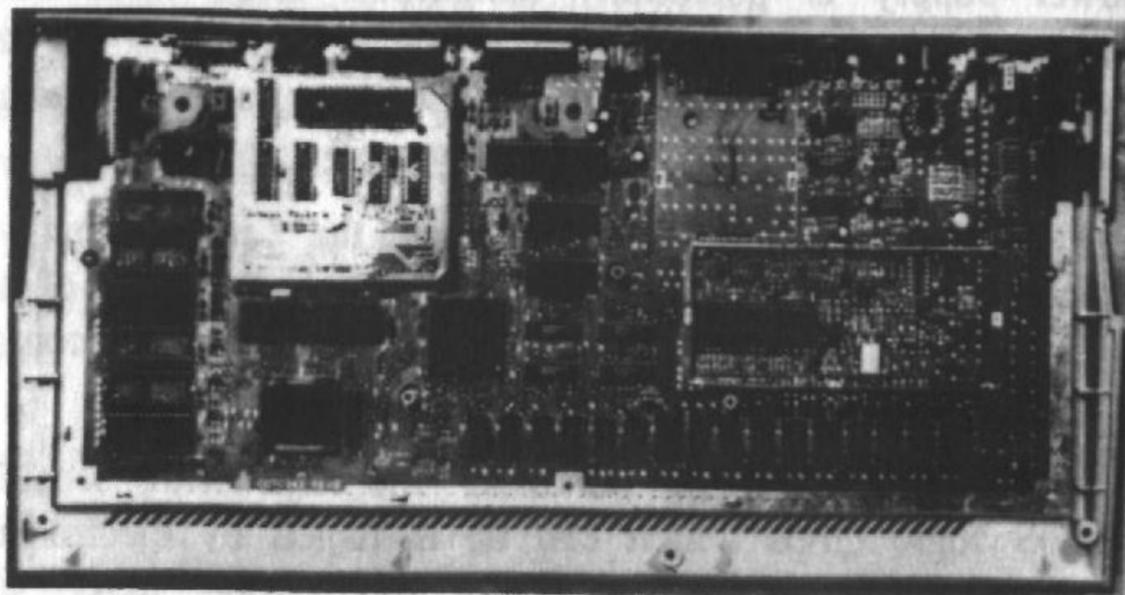

Figure 1: System board of a 520 ST (+).
5. You should now see the system board as illustrated (Figure 1).
8. Take the PC-SPEED board and hold it carefully above the IC socket. It should be positioned so that the mark on the 68000 matches the mark (black dot) on your PC-SPEED board, as shown in figure 1.